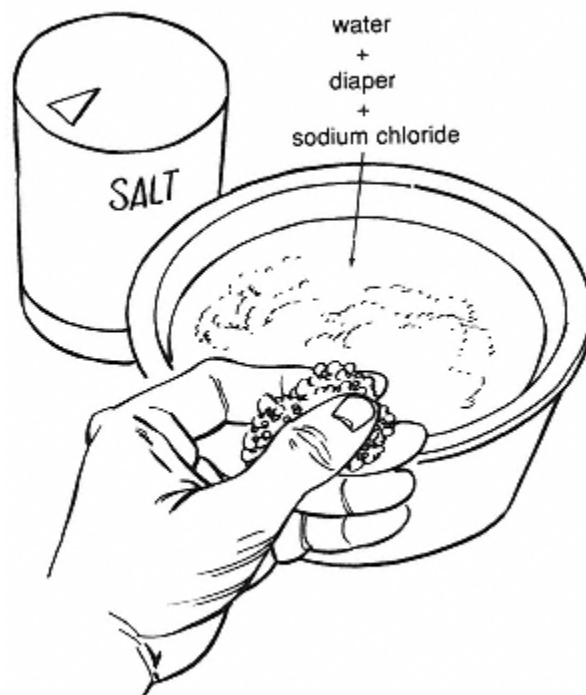

Figure 24.3
3. Sodium polyacrylate is nontoxic, but it will dry and irritate the mucous membranes of the eyes, nose, and mouth. As it combines with water, the sodium polyacrylate in the fiber of a disposable diaper inflates and forms a gel. Addition of table salt causes the gelled polymer to break down as water moves outside the polymer network. Demonstrate this change in texture caused by the movement of water into and out of the polymer. Remove the inside fiber from a diaper. Cut the piece in half and place each piece in a separate 2-quart (2-liter) bowl. Add enough water to totally saturate each piece. Observe the change in size of the fiber as the water is added. Crumble the fiber in both bowls to form a wet mush. Rub the material between your fingers and observe the pieces of gel mixed in with the fiber. Add 2 tablespoons (30 ml) of sodium chloride to one bowl. Mix and, with your hands, examine the texture of the material again (see Figure 24.3). *Note:* Wash your hands to remove the sodium polyacrylate.